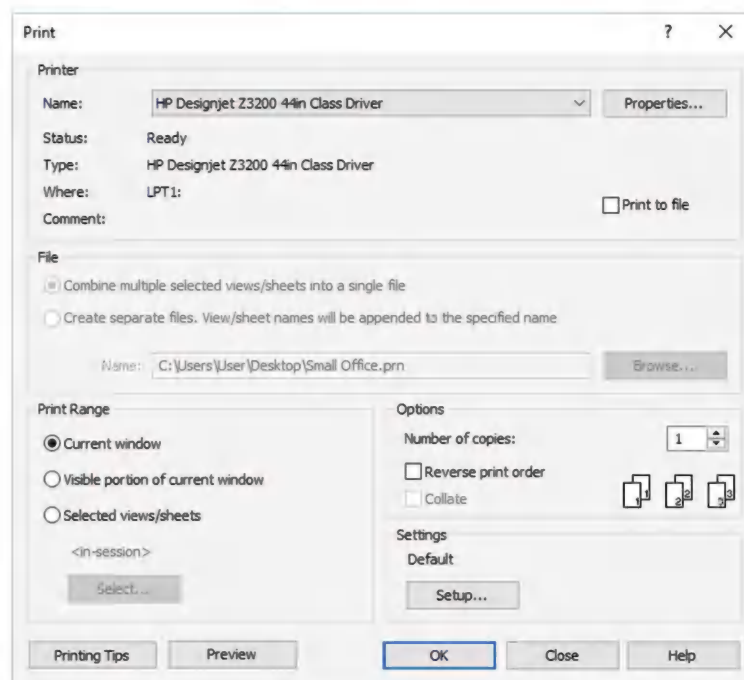

FIGURE 2-6.1 Print dialog
3. Adjust your settings to match those shown in **Figure 2-6.1**.